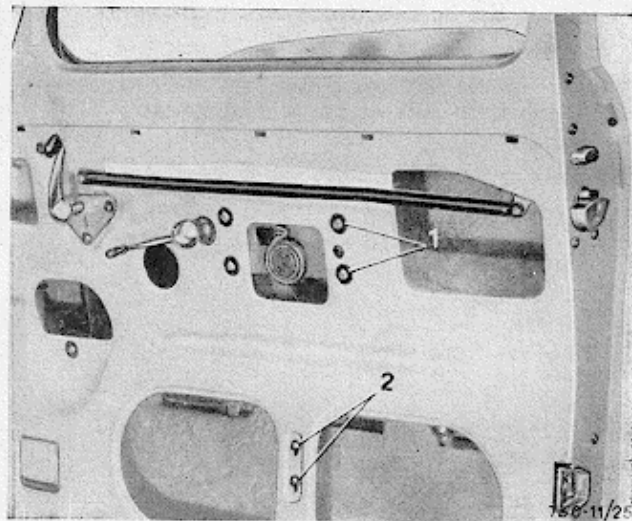
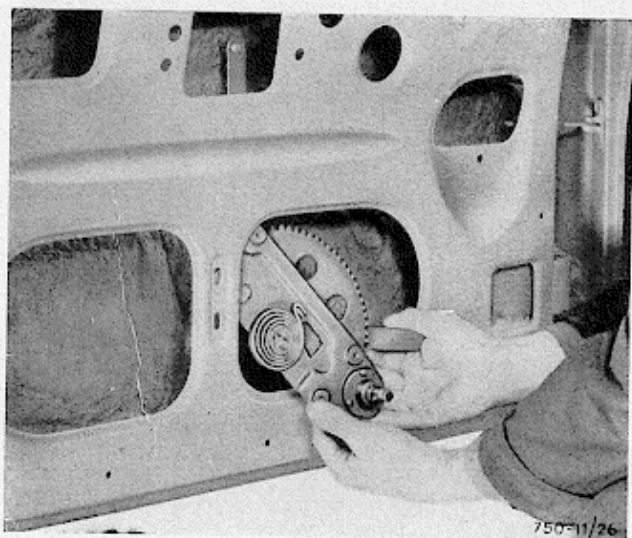

Fig. 24 - Front door
Fig. 25 - Removing the window-raising mechanism from a front door
When it is necessary to remove the front door mechanism, first of all remove the panel, the two screws which secure the window limit bracket and then the bracket itself (Fig. 24). Then:
- remove the four screws 1 (Fig. 24) which secure the mechanism and slide the mechanism out at the bottom as shown in Fig. 25. At the same time support the glass by hand.